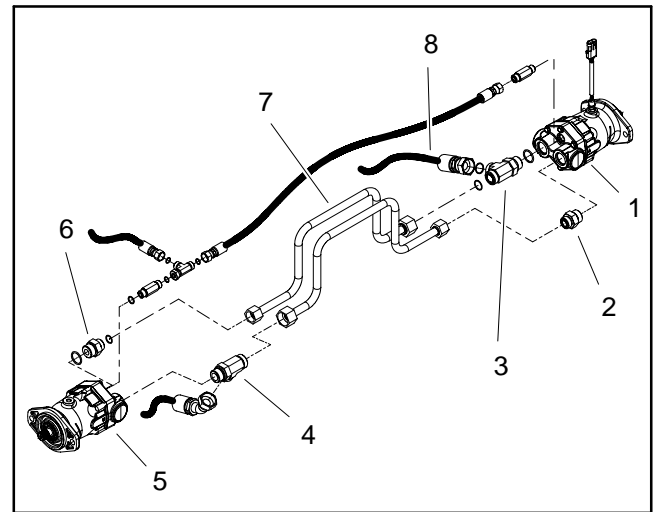

Figure 29
6. To test right side (RH) wheel motor efficiency (Fig. 29):
- B. Remove hydraulic tube (item 7 in Fig. 29) from between the tee fitting on RH wheel motor and the straight fitting on LH wheel motor.
7. To test left side (LH) wheel motor efficiency (Fig. 29):